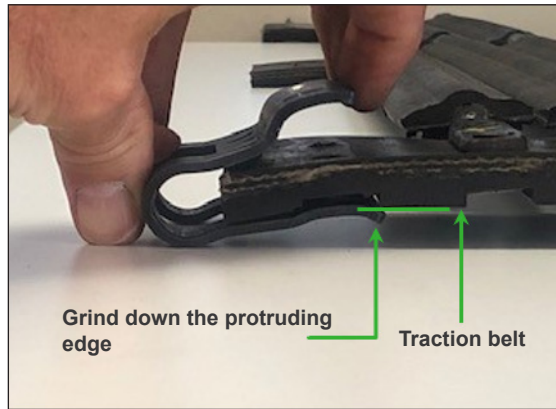

Figure 28 - Joiner clip
- Check the fasteners are flush to the nuts (which are flush to the joiner) and the bottom edge of the joiner clip is flush with the bottom of the traction belt. Grind the joiner and nuts down flat to prevent them from catching on the elevator/floor conveyor bed and causing belt damage (Figure 28).